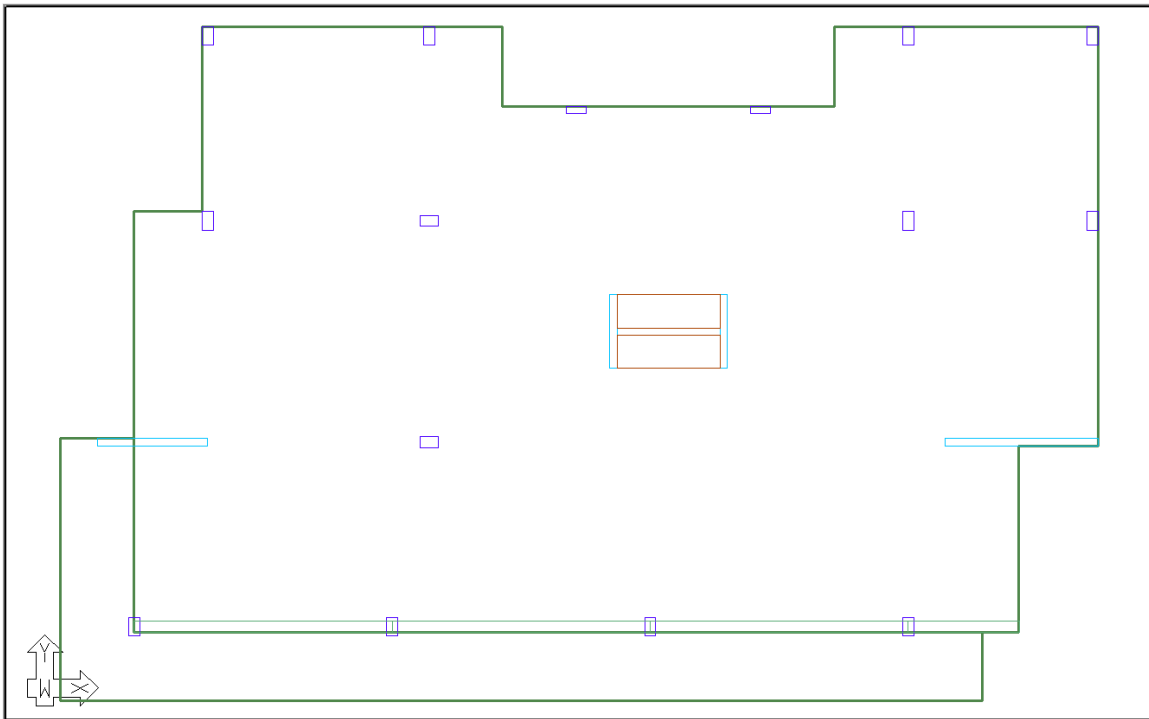

FIGURE 3-23
- Click on the **Zoom Extents**  icon. The user should see the Level 1 floor plan modeled within ADAPT-Builder as shown in **FIGURE 3-23**.